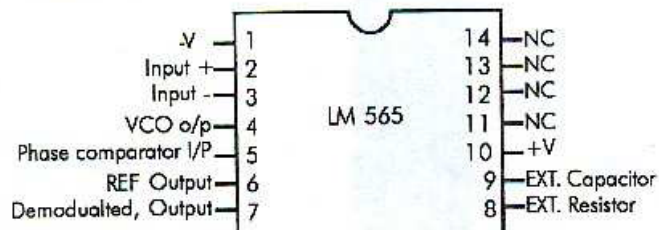

Fig.1 Pin Diagram of LM 565
1. Connect the circuit as per circuit diagram shown in fig 1.
1. Connect the circuit as per circuit diagram as shown in the fig 1.